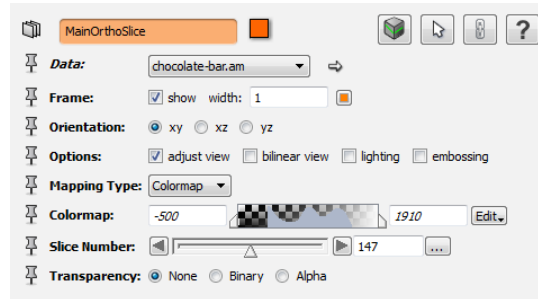

Figure 6.74: The *MainOrthoSlice* module properties.
- You may select the module *MainOrthoSlice* and adjust the colormap range of the edges area or transparency for better seeing the edge areas (see Figure 6.74).